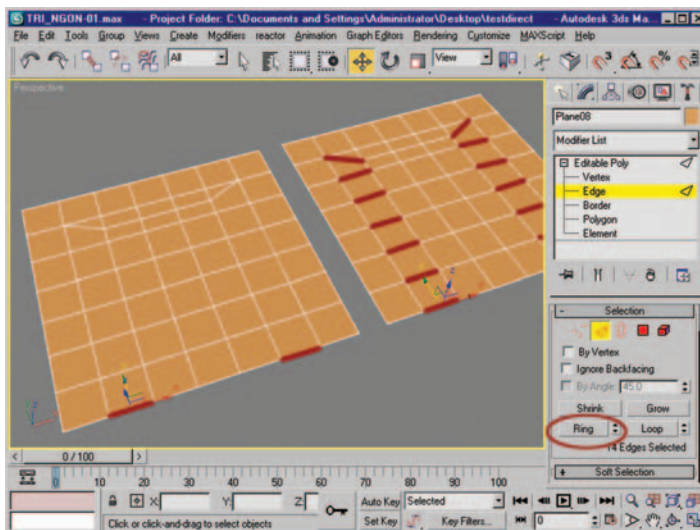

Figure 6.54 Edge selection and resulting ring selection.
1. At the Edge subobject level, select the two edges shown in Figure 6.54 and use Ring or Alt+R to create a ring selection of seven edges per side—fourteen edges in total.